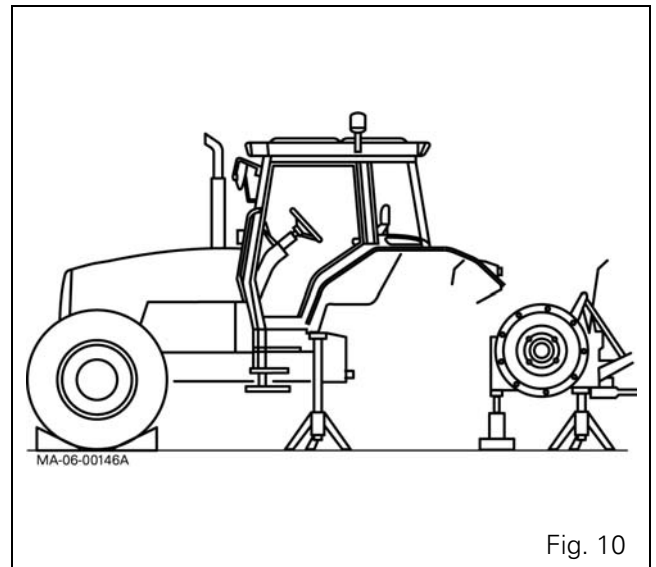

Fig. 10
26. Split the tractor between the gearbox and the rear axle (the cab remains integral with the gearbox) (Fig. 10).